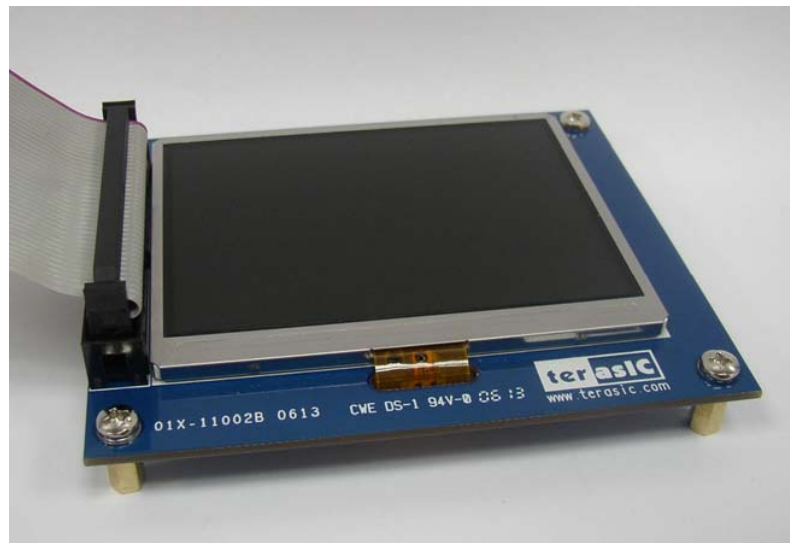

Figure 1.2 Connect the IDE cable to the TRDB_LCM board
1. Connect the IDE cable to the back of the TRDB_LCM board, as shown in Figure 1.2.